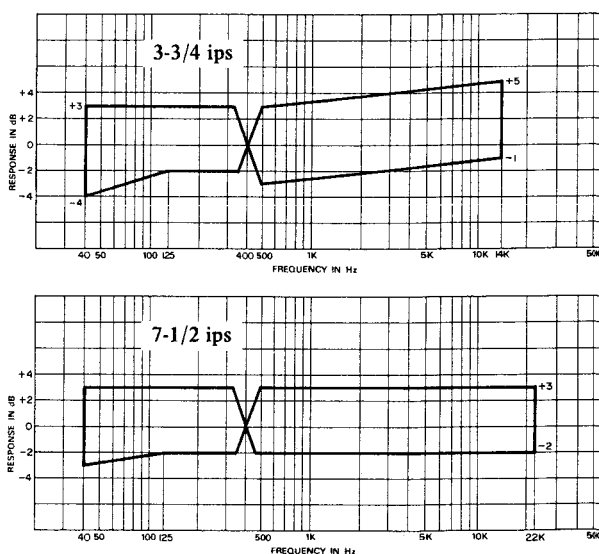

Fig. 8-11 Frequency Response — OVERALL — 2
24. Repeat the above procedure for HIGH, using a signal swept from 40 Hz to 22 kHz. Refer to Response Limits in Fig. 8-11 below.